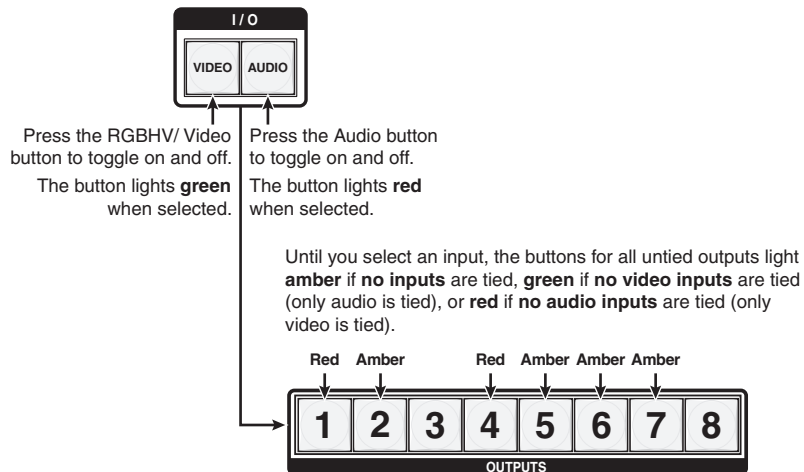

Figure 3-22 — Select RGBHV and audio
3. To select both video and audio for viewing, if necessary, press and release the RGBHV button and the Audio button (figure 3-22).